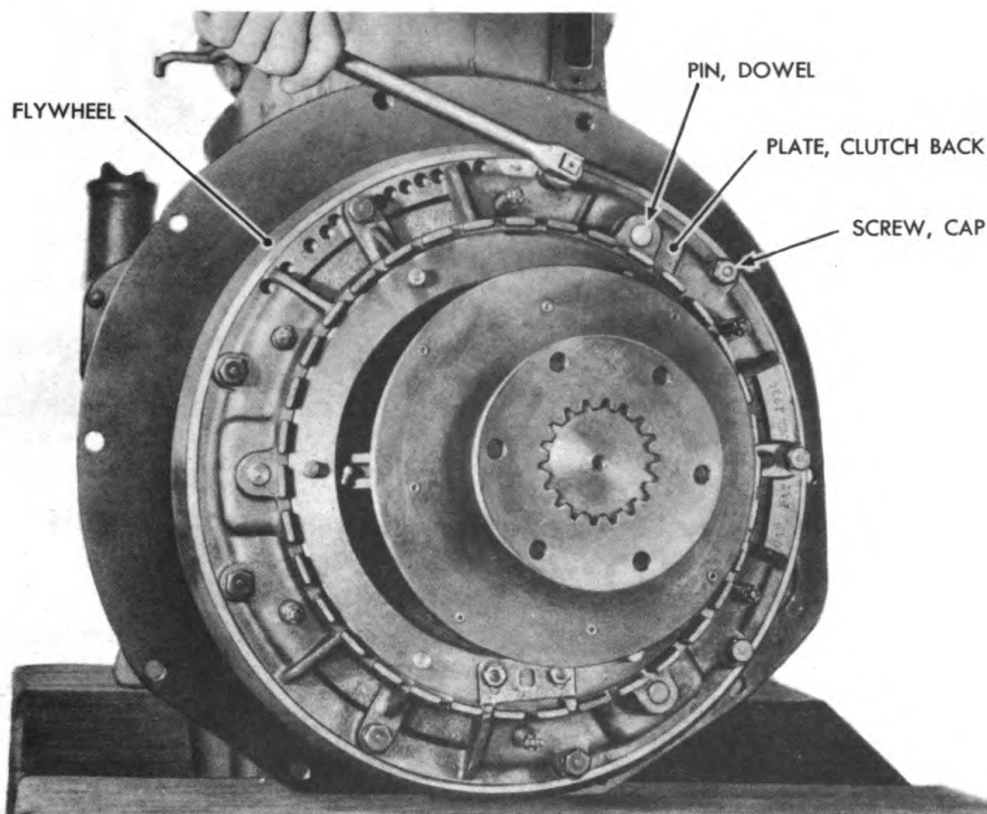

Figure 29—Clutch Assembly Removal RA PD 12794
56. COMPLETE CLUTCH REMOVAL (fig. 29).